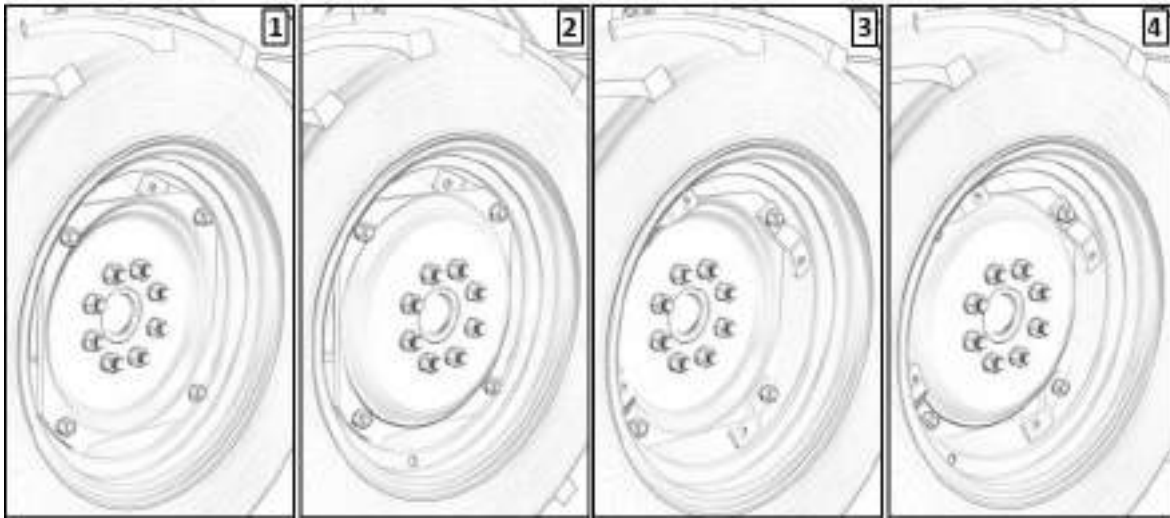

Fig. 191
- If the base plate is turned to the other side of the connective plate, the rim and the base plate can be positioned in four ways, see Fig. 191.